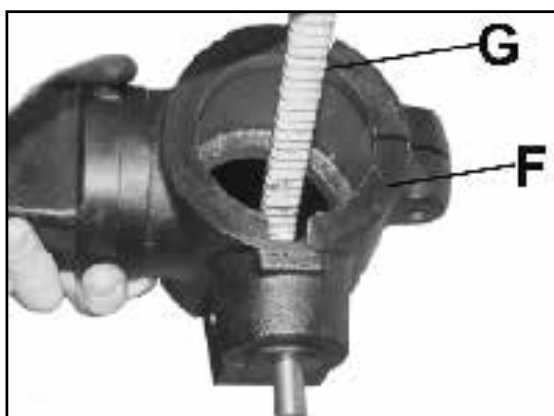

Figure 2
2. Place rack (G-Fig. 2) inside the table support bracket (F-Fig. 2), lining up the rack's teeth with the worm gear that is inside of the table bracket.